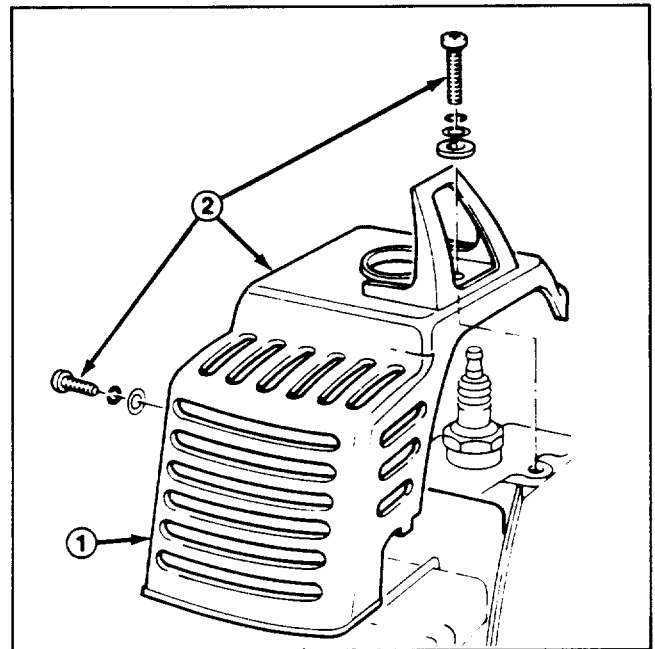

Figure 15
SERVICING MUFFLER (Figs. 15 & 16)
1. Remove three (3) screws securing muffler cover to trimmer (Fig. 15).